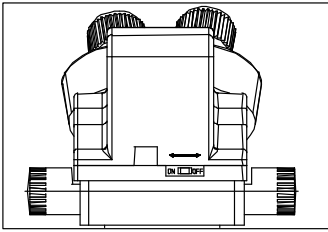

Fig.12
- 3) If you want to observe another single color, please let the switch be “ON” again when you finish the observation, and put the switch on “OFF” again after auto balance, or the color of the image will be distortion.(Fig.12)